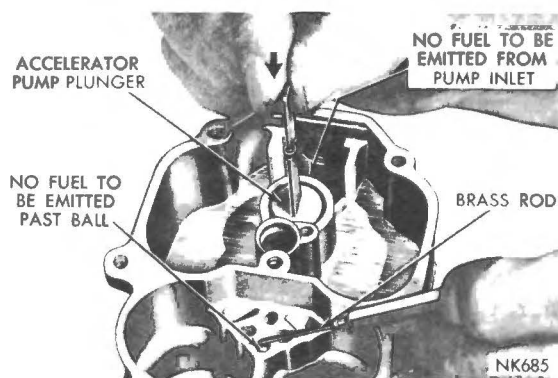

Fig. 7 Testing Accelerator Pump Intake and Discharge Check Balls
(3) Pour clean gasoline into the carburettor bowl, approximately  $\frac{1}{2}$  inch deep. Remove the pump plunger from the jar of gasoline and slide down into the pump cylinder. Raise the plunger and press lightly on the plunger shaft to expel air from the pump passage.
(4) Using a small clean brass rod, hold the discharge check ball down firmly on its seat. Again raise the plunger and press downward. No fuel should be emitted from either the intake or discharge passage, as shown in (Fig. 7).